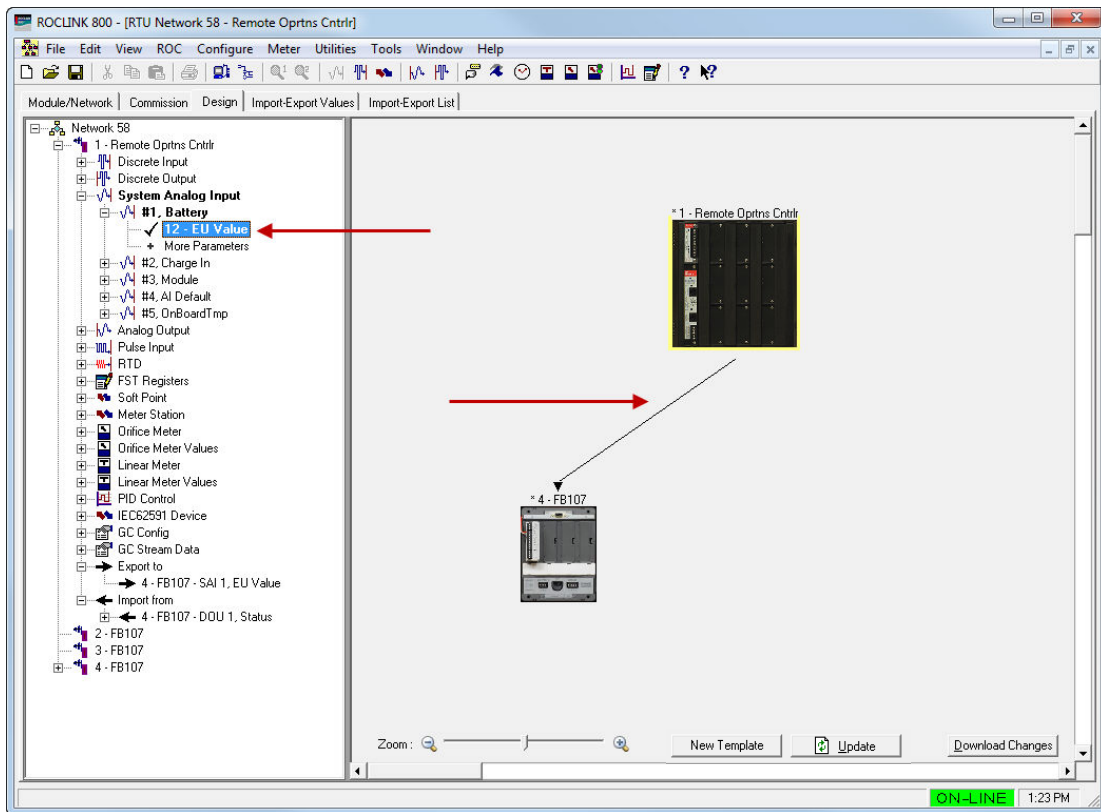

Figure 3-23. Defined Export (NAP to Node)
4. Defining an import to the node is just as simple. Select the NAP, expand the device tree, and drag-and-drop a value onto the node (see *Figure 3-23*):